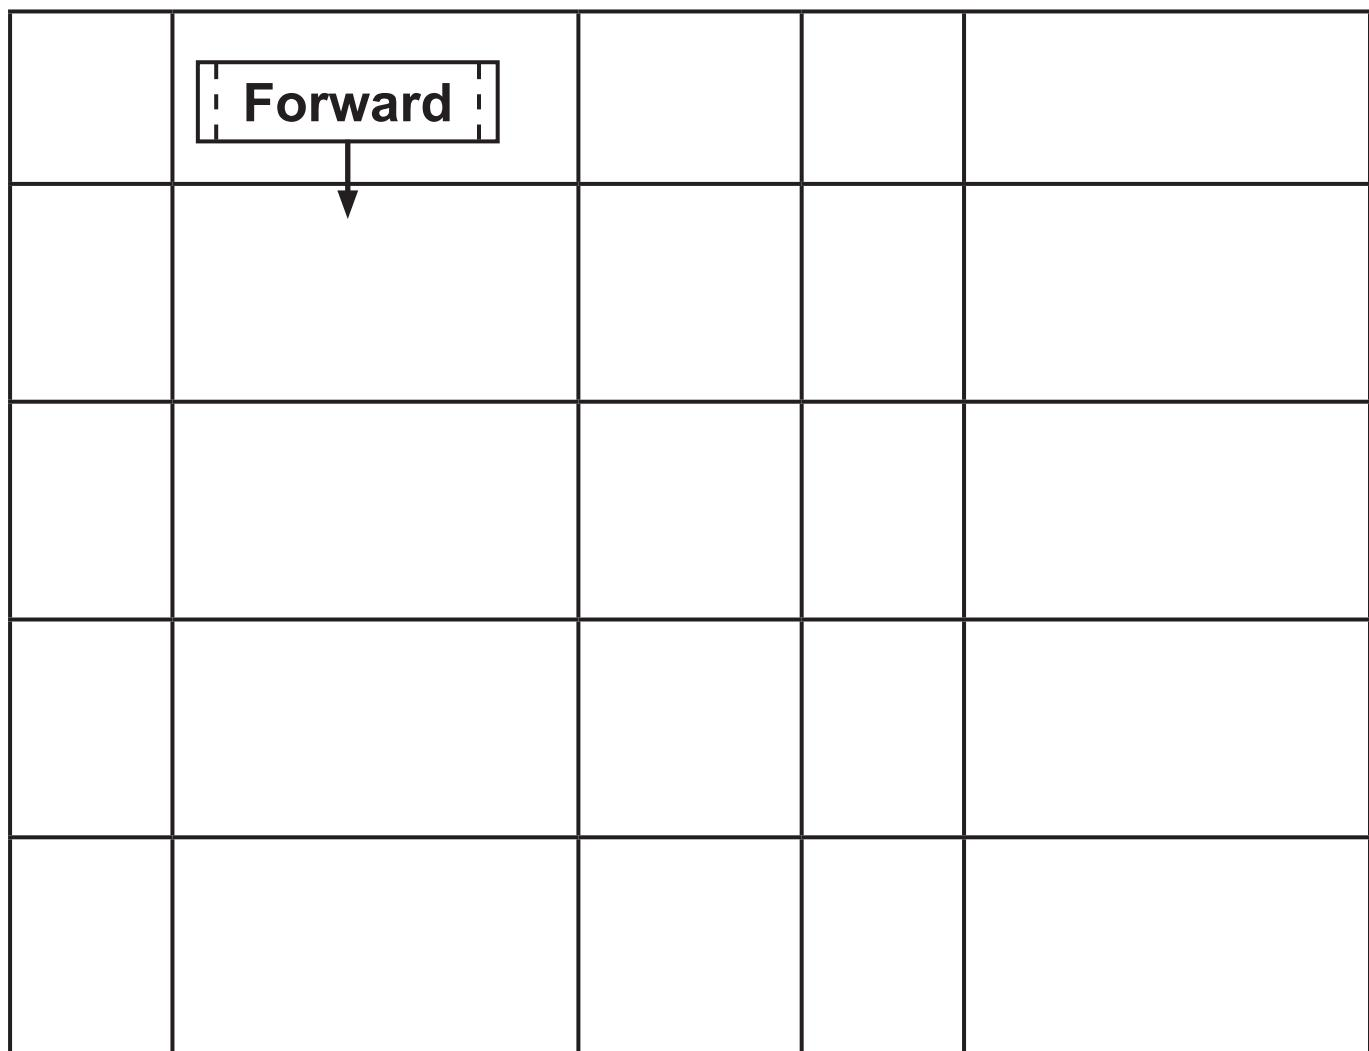

Fig. 10
- (i) Complete the flow chart in Fig. 10 to represent the **Forward** macro as follows: [4 marks]